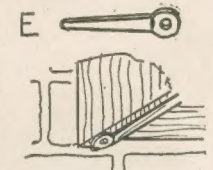

Fig. 3—The wall cleat screwed to the sides of the cote.
The cote should be hung up securely. A good method is to use wall clasps, iron ones, as pictured at (E) in Fig. 3. These can be bought at most hardware stores. They are driven in the wall, be-
Drive one pair at about the required height, and rest the cote upon them, as in detail, Fig. 3. The second pair can be driven in higher up, and screwed to the sides of the cote.